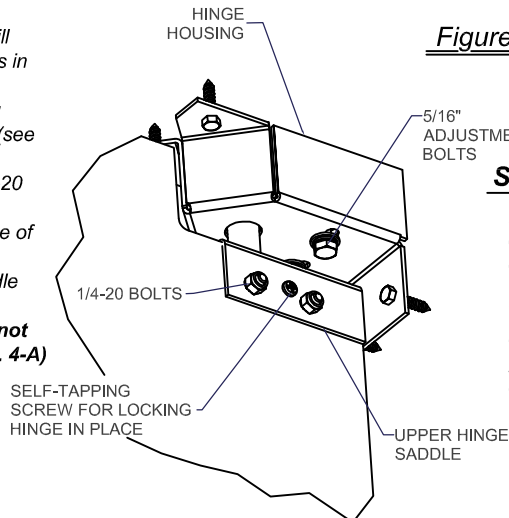

Figure 5-A
a) Location of upper hinge is set at factory and will be correct for most applications. (see fig. 5-A)
b) However, the elongated slots in upper hinge saddle will permit adjustments to compensate for most abnormalities in the jamb. (see fig. 5-A)
c) if this adjustment is needed, remove small self-tapping screw from upper hinge saddle, and loosen 1/4-20 bolts. (see fig. 5-A)
d) Move door panel to desired position and retighten 1/4-20 bolts. (see fig. 5-A)
e) Self-tapping screw must be reinstalled on opposite side of upper hinge saddle. (see fig. 5-A)
f) Drill 1/8" hole in panel through small hole in hinge saddle and install screw. (see fig. 5-A)
Important- Align door panel to position desired and tighten 5/16" adjustment bolts on bottom of hinge housing. (see fig. 5-A)
To adjust closed door position, loosen the adjustment bolts. Move door to desired position, and retighten the adjustment bolts. (see fig. 5-A)